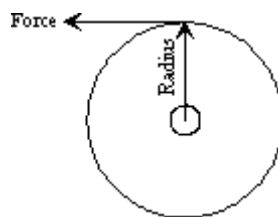

Figure 16
If a force (F) be applied to the shaft of a machine at some distance (r) from the centre as shown in figure 16, the tendency to turn the shaft is given by the product of the force (F) and the radius (r).